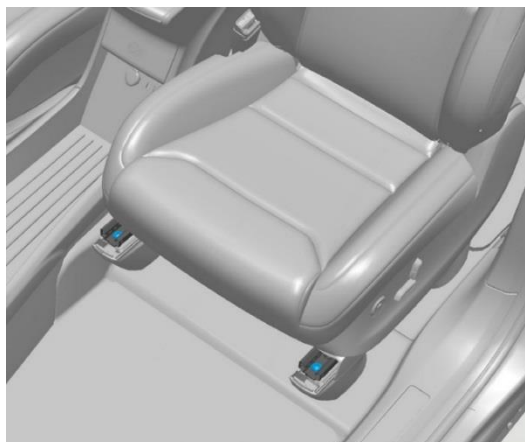

Figure 9. Front seat rail bolts
- c. Remove and discard the front bolts (x2) (Figure 9) that secure the seat to the riser (torque 34 Nm).